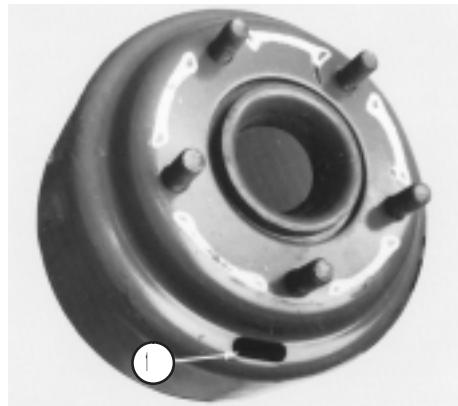
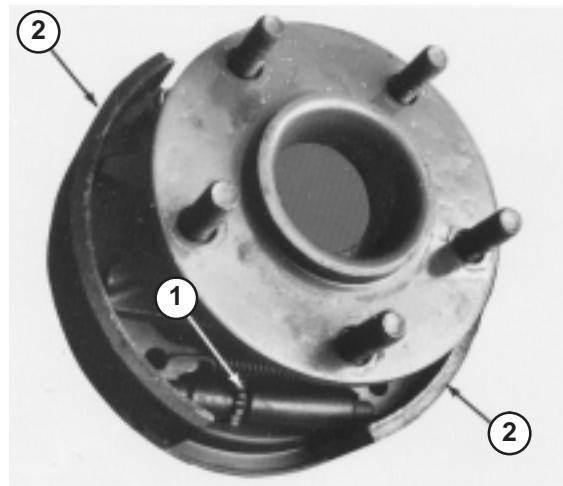

Figure 67
Figure 68
- Remove wheel nuts and slide wheel and tire assembly off studs. Rotate brake drum until adjusting slot is at bottom and centered over star nut that adjusts brake shoes (Fig. 67).
- Using a brake adjusting tool or screwdriver, rotate star nut (Fig. 67) down until brake drum (Fig. 68) locks because of outward pressure of brake shoes (Fig. 68).